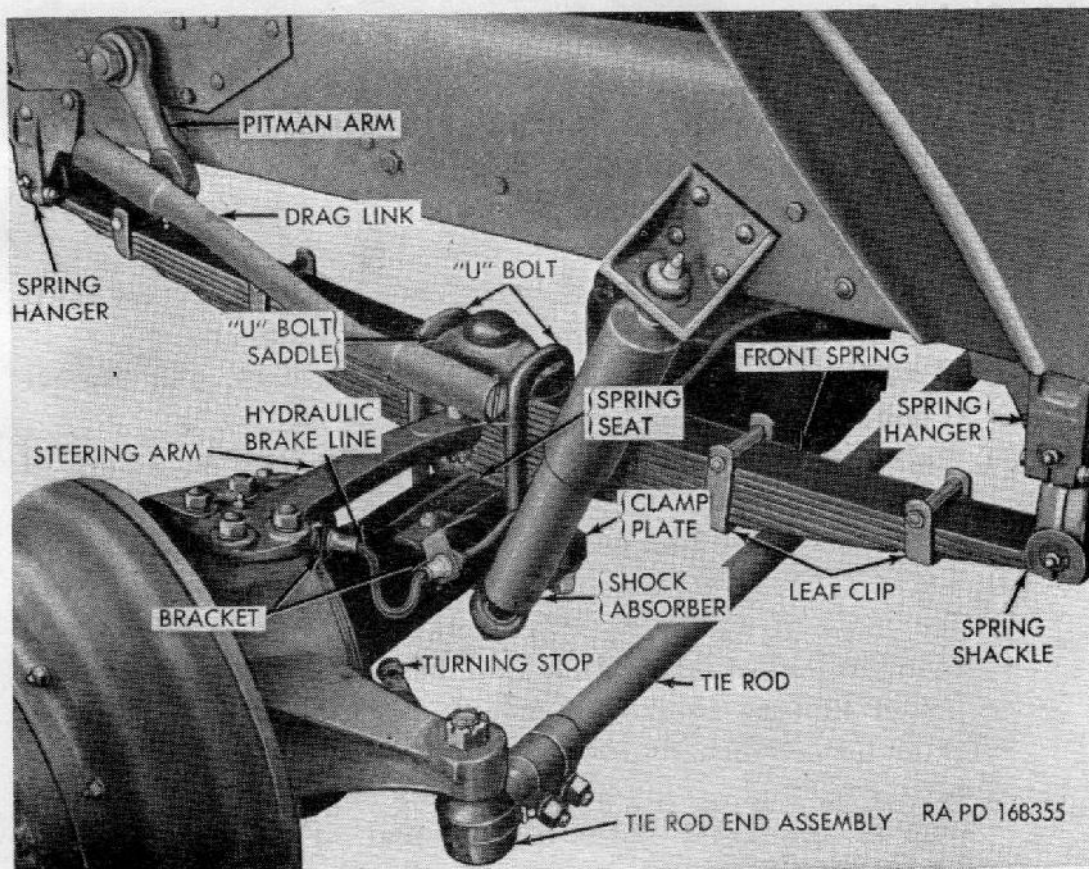

Figure 114. Front spring installation.
a. All hydraulic lines are metal tubing and all fittings are inverted flared tube type. Lines are securely anchored to truck frame and axles to prevent vibration. Flexible lines, supported by suitable brackets, are used for all axles, and wheel-cylinder connections (fig. 114).
a. **FRONT SPRINGS** (fig. 114). Front springs are semielliptic type, assembled with a bolt through center of leaves, and leaves alined with four leaf clips. Springs are mounted on a seat resting on axle and are secured by two **U** bolts, seated in a saddle and passing through a clamp plate under axle. The front spring is pivoted in a hanger at front end and shackled to a hanger at rear end.
(fig. 114)